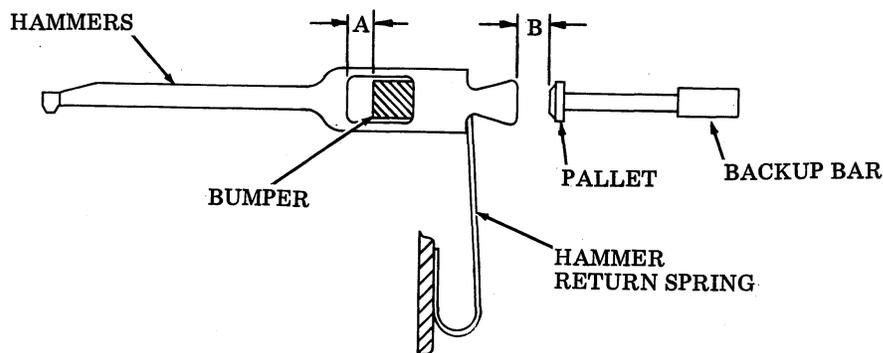

Fig. 38
3.23 Fig. 38 shows one print hammer held in the returned position by the return spring against the bumper, and a pallet against the back-up bar. With the back-up bar properly adjusted the gap "B" equals the distance "A" plus the pile up of a 6-ply paper with carbon inserts. The hammer when fired will impact the 6-ply paper without the bumper interfering. Removing more sheets of paper, the bumper will absorb more energy and leaves less energy for printing impact. The bumper also cushions the hammer rebound